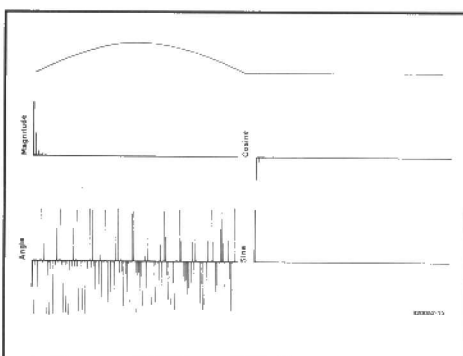

Fig. 4. Half-wave rectified wave.
*Wave III* is a half-wave rectified wave that has a 61% DC level (amplitude/ $\pi$ ) and a handful of odd harmonics. Simply connecting a capacitor across the load is normally enough to reduce the harmonics to an acceptable level. The Fourier analysis is plotted in Fig. 4.